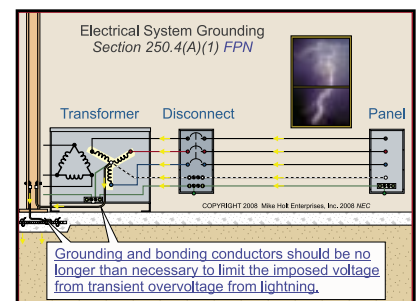
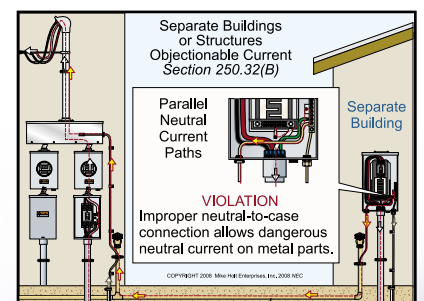

Figure 250-21
Figure 250-22
(B) Equipment Grounding Conductor. To quickly clear a ground fault and remove dangerous voltage from metal parts, the building or structure disconnecting means shall be connected to the circuit equipment grounding conductor of a type described in 250.118. Where the supply circuit equipment grounding conductor is of the wire type, it shall be sized to 250.122, based on the rating of the supply circuit overcurrent device rating. (See Figure 250-21)
- (1) The maximum unbalanced neutral load in accordance with 220.61.
- (2) The rating of the circuit overcurrent device, in accordance with 250.122.
**Caution:** To prevent dangerous objectionable neutral current from flowing onto metal parts [250.6(A)], the supply circuit neutral conductor is not permitted to be connected to the remote building or structure disconnecting means [250.142(B)]. (See Figure 250-22)
**Analysis:** In the 2005 NEC, 250.32(B)(2) permitted the neutral conductor to serve as the effective ground-fault current path, this rule was converted into an exception for existing premises. Using the neutral conductor to connect metal objects to the effective ground-fault current path is a dangerous practice, especially if the neutral becomes open.